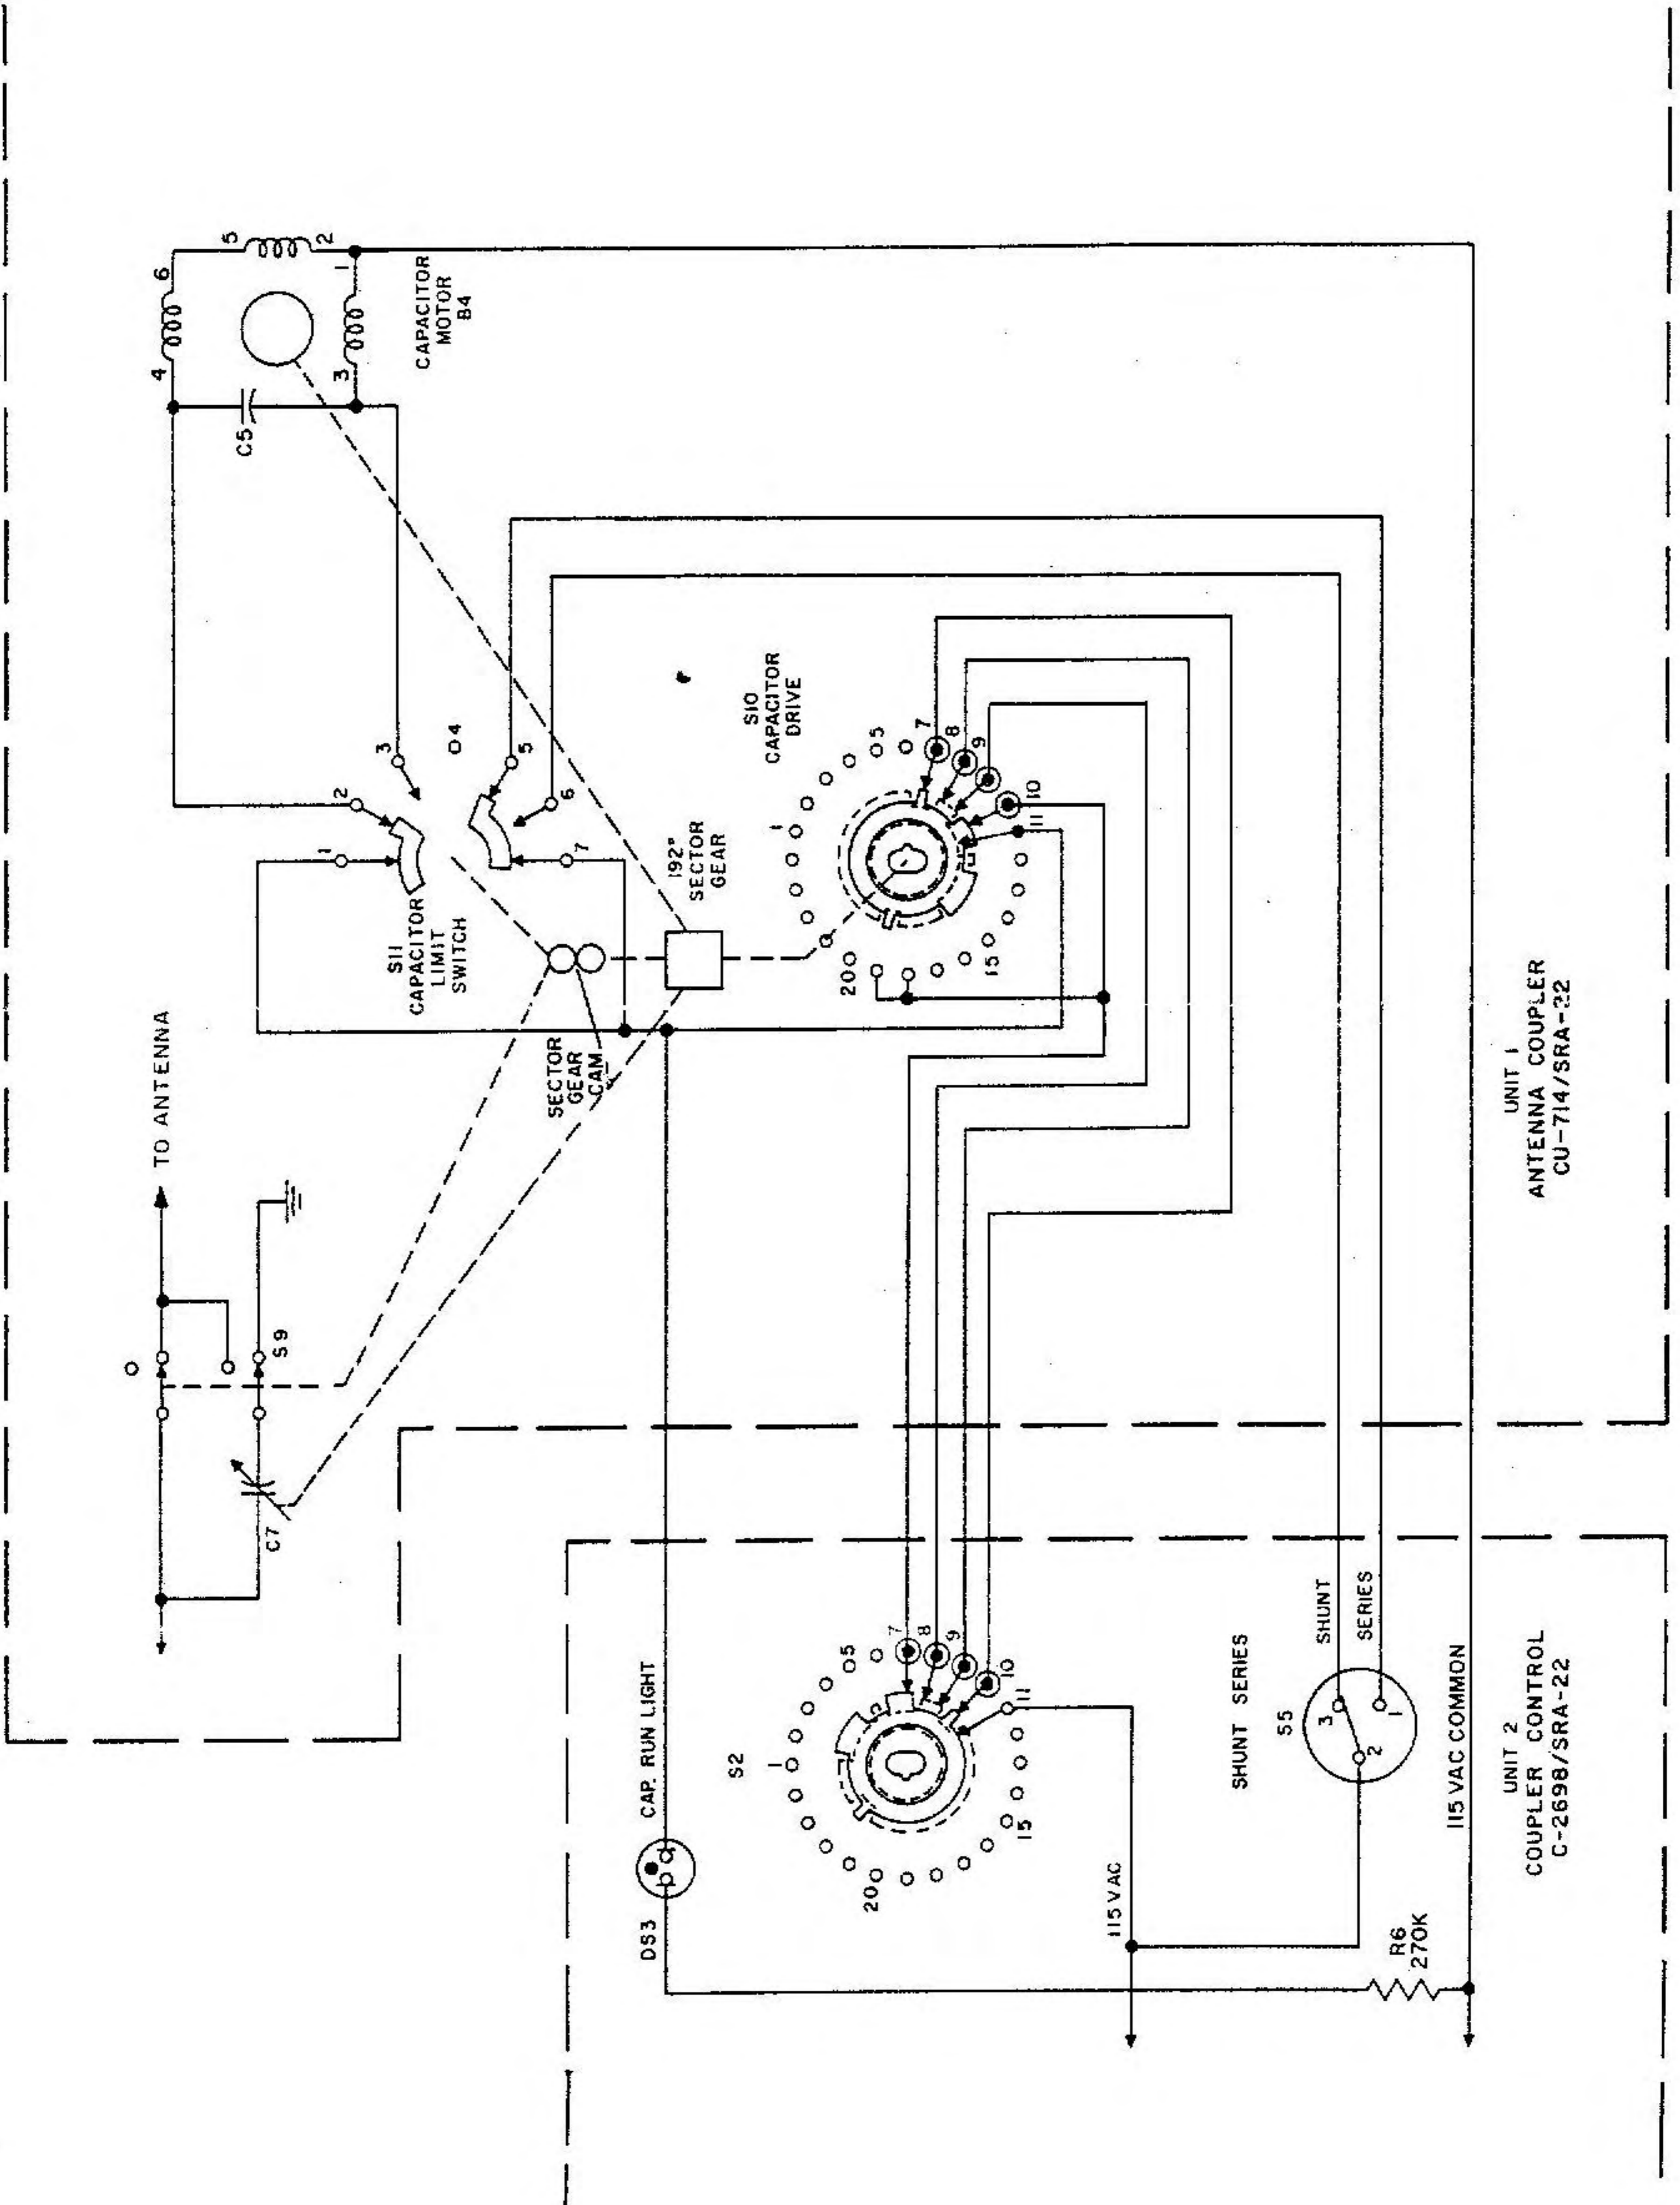

Figure 4-6. Capacitor Drive, Simplified Schematic Diagram
(1) CAPACITOR DRIVE CIRCUIT. - The CAPACITOR switch, located in the coupler control unit, is a 12-position wafer switch which causes the variable vacuum capacitor to be driven to a predesignated position. Refer to figure 4-6 for the simplified schematic diagram.